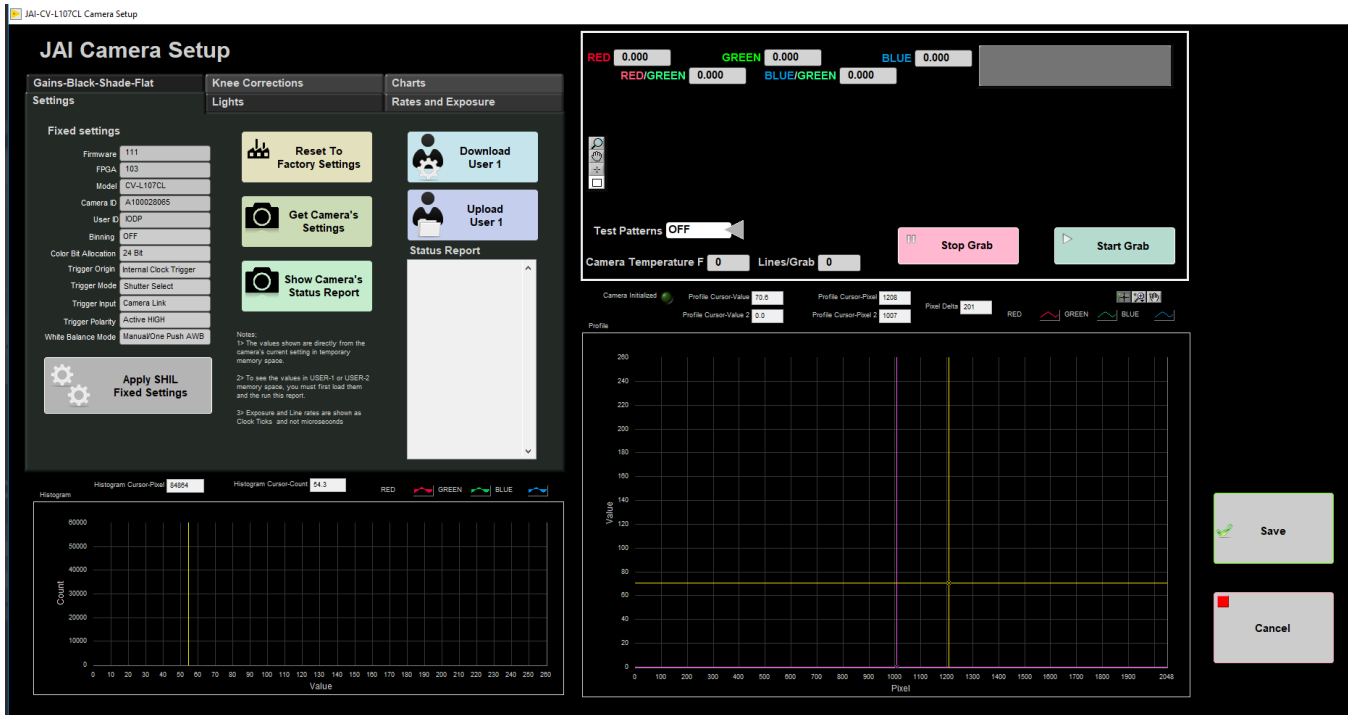

Figure 38. General Camera Setup fixed Settings
3. Instruments > Camera: JAI Camera Setup (Figure 38).